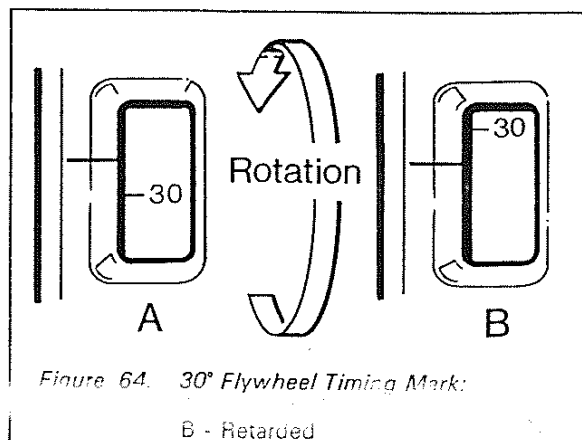

Figure 64. 30° Flywheel Timing Mark:
7. Reattach the delivery valve holder (A).
14. If the flywheel timing mark is not correct, see Figure 64, the shims under the fuel pump must be adjusted.
7. If the flywheel timing mark is not correct, see Figure 64 on page 51, the shims under the fuel pump must be adjusted.